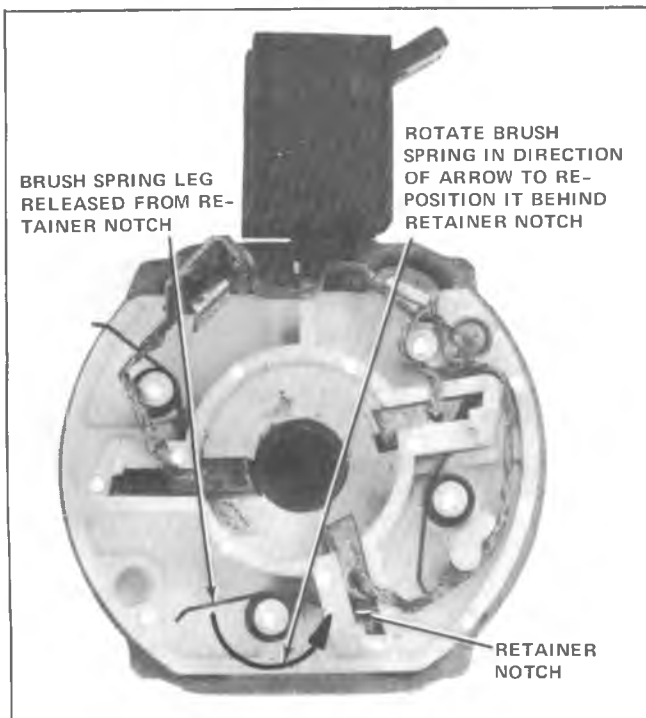

Fig. 8-32-Releasing Brush Spring Tension
1. Release brush spring tension figure 8-32 and slide brushes back in their respective brush holders.